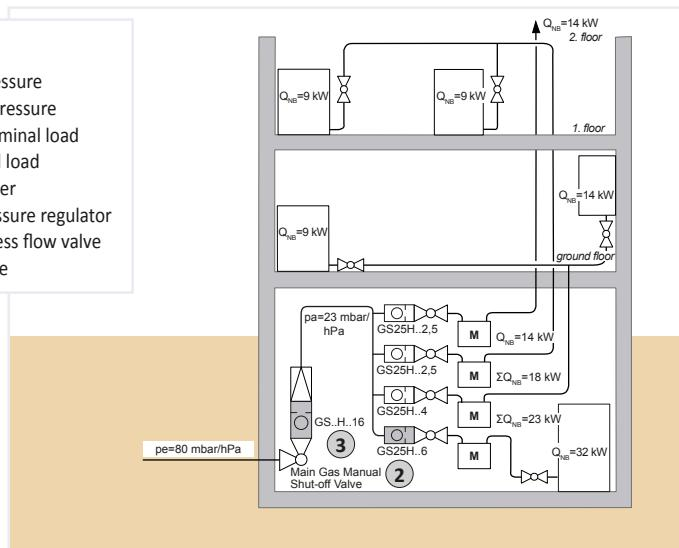

Figure 4: SENTRY GS in a multi-family dwelling (supplied with natural gas)
2. See ③ in figure 4
3. See ② in figure 4